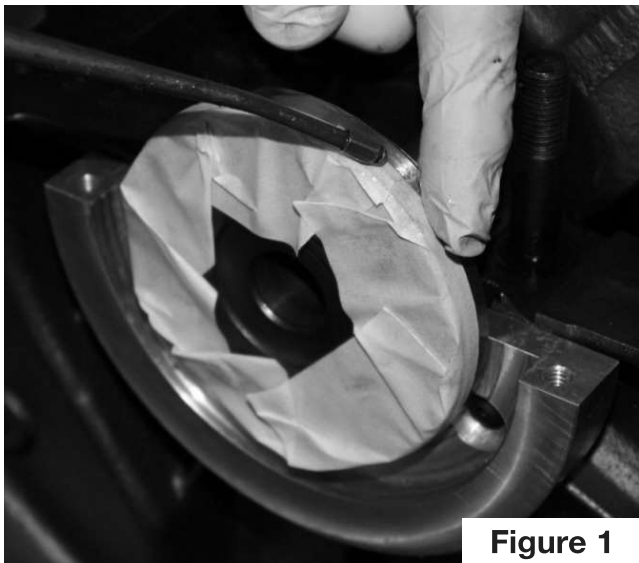

Figure 1
- 1) If you fitted a Speedi-Sleeve to your flange, it is very likely that the very thin, very sharp edge of the sleeve will slice into the lip of the seal as you install it. To prevent this, cover only the rearmost edge of the Speedi-Sleeve with one layer of masking tape (Figure 1). Apply a light coating of engine oil onto the tape and crankshaft flange (or Speedi-Sleeve).